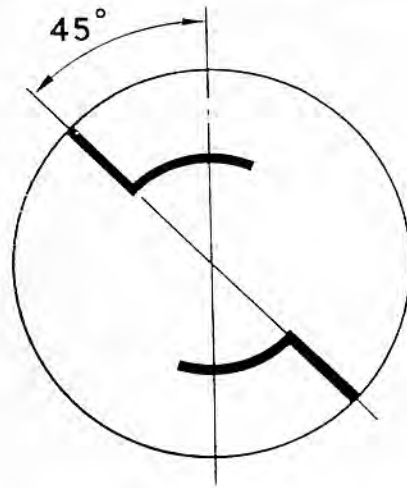

FIG. 135 ARRANGEMENT OF STARTER JAW FOR BEST CRANKING POSITION
12. Replace starter jaw, shimming as necessary to present the easiest position for cranking the engine as shown in Fig. 135.